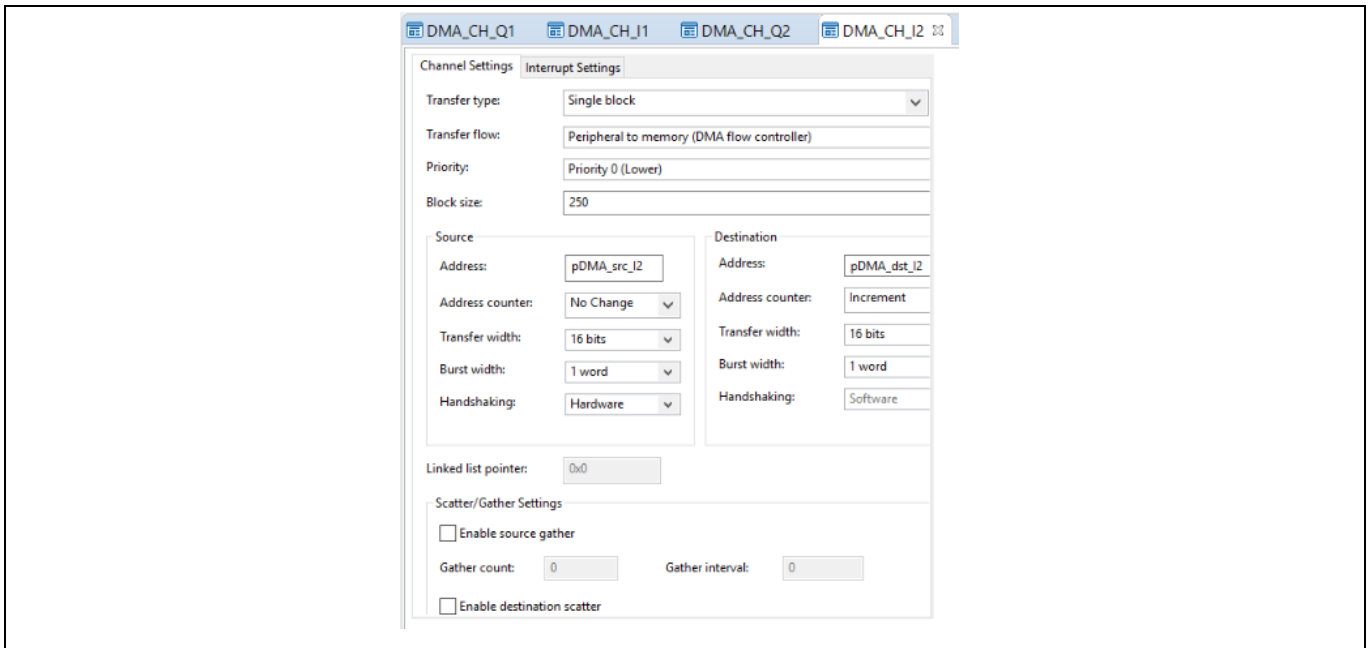

Figure 18 DMA DAVE™ app configuration
**Figure 18** shows the configuration of the DMA\_CH DAVE™ app.